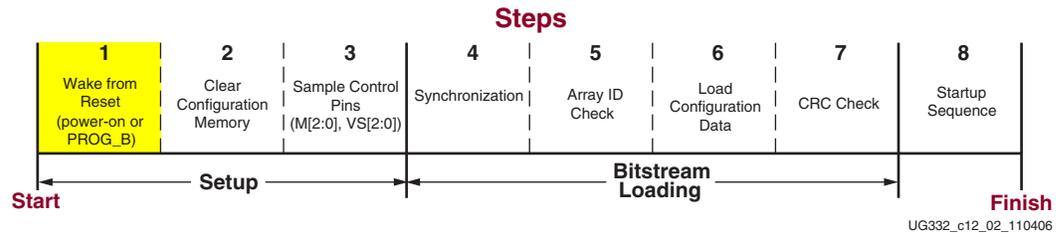

Figure 12-2: FPGA Wake from Reset
1. Hold the `PROG_B` pin Low, which holds the FPGA in reset, Step 1 shown in Figure 12-2, page 242.